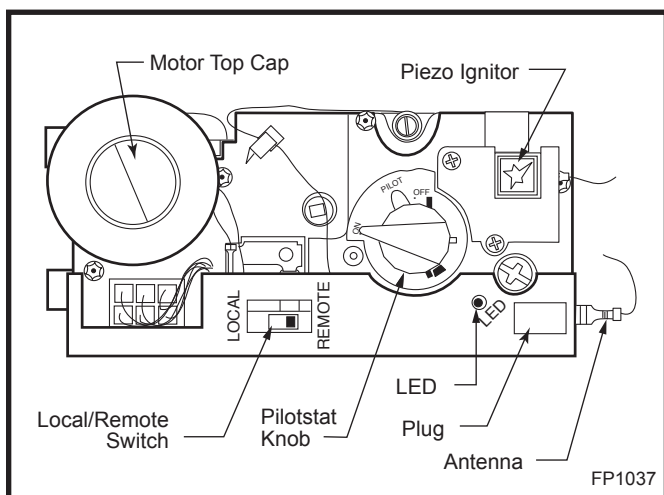

Fig. 57 Comfort control valve.
1. If the manual switch is in remote position, switch it to LOCAL. (Fig. 57)
- Remove and replace plug on lower right hand side of the valve; Red for LP and Blue for NG. (Page 32, Fig. 57)